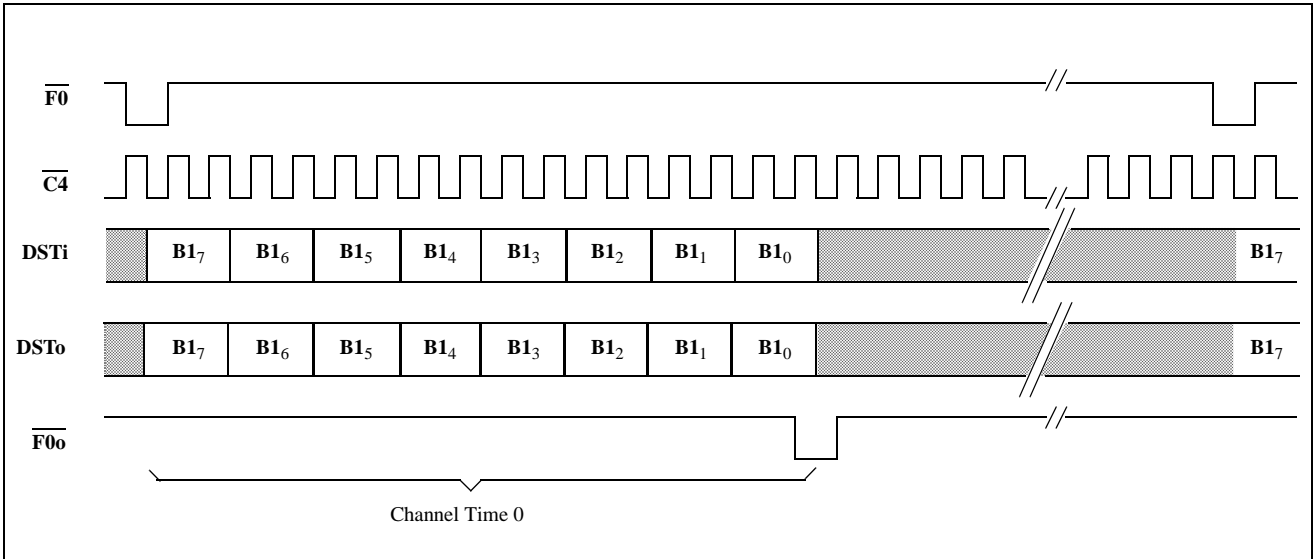
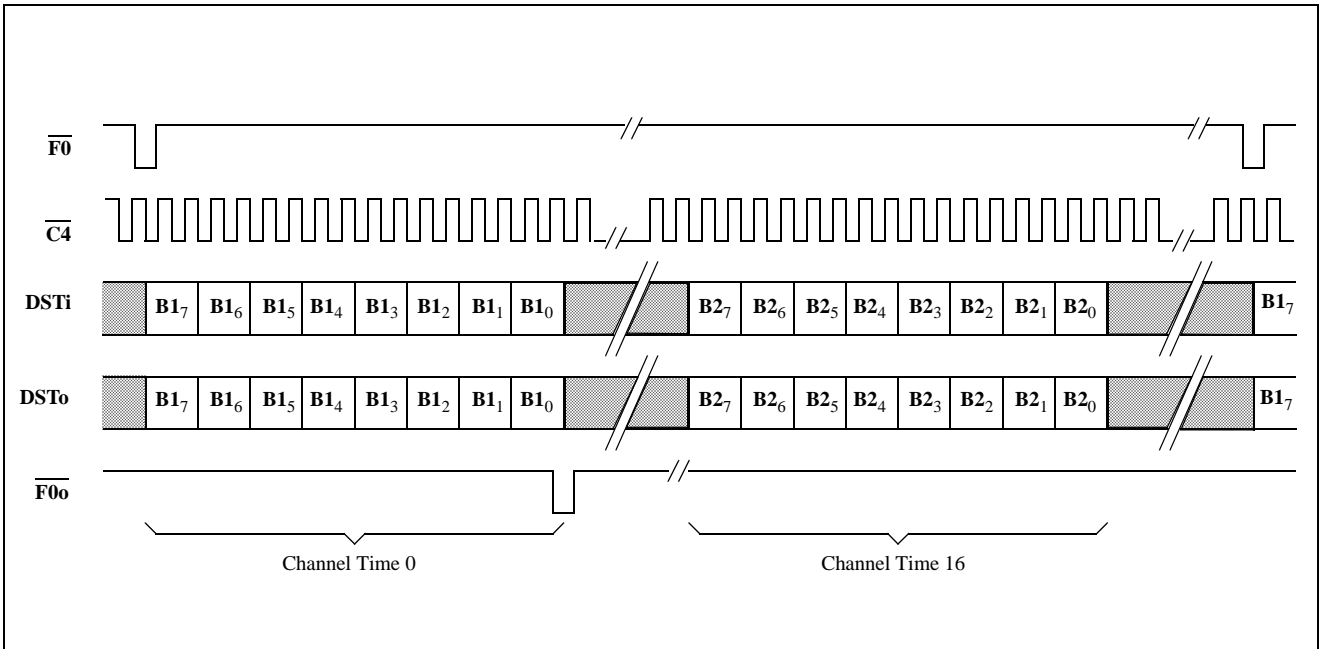
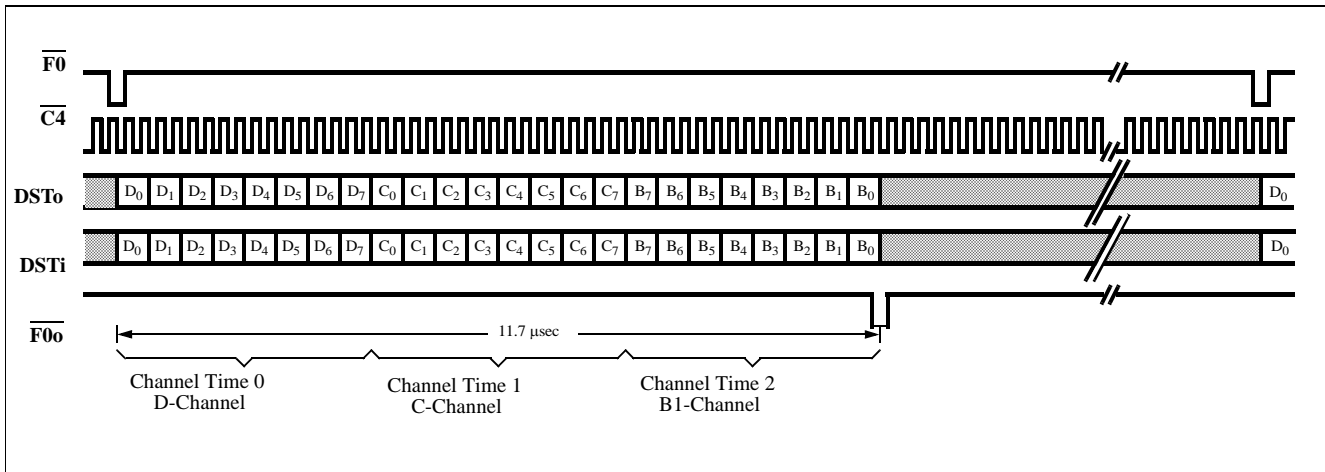
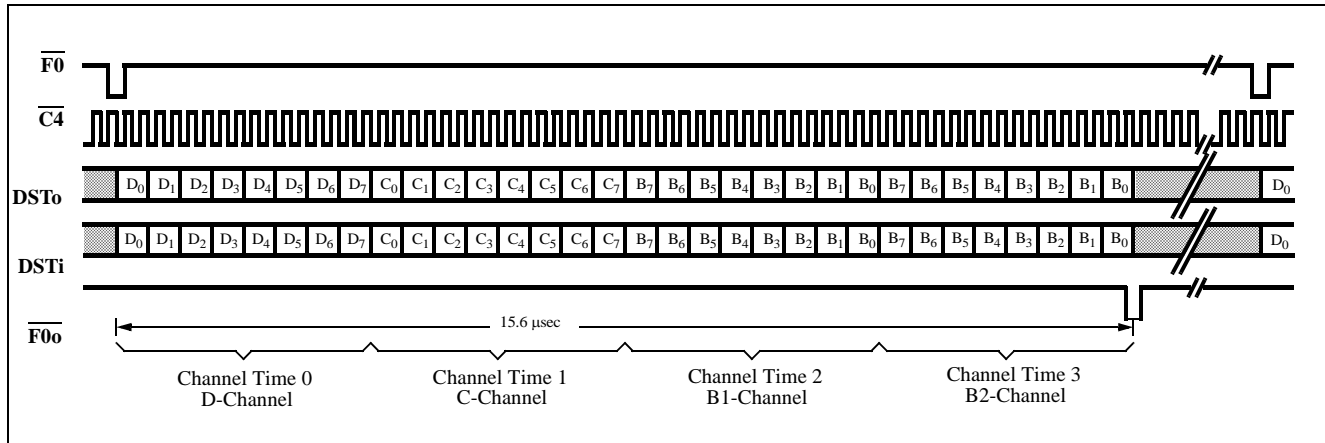

Figure 3 - DV Port - 80 kbit/s (Modes 2, 3, 6)
Figure 4 - DV Port - 160 kbit/s (Modes 2, 3, 6)
Figure 5 - DV Port - 80 kbit/s (Modes 0,4)
Figure 6 - DV Port - 160 kbit/s (Modes 0,4)
In DIGITAL NETWORK (DN) mode there are three channels transferred by the DV and CD ports. They are the B, C and D channels. The B1 and B2 channels each have a bandwidth of 64 kbit/s and are used for carrying PCM encoded voice or data. These channels are always transmitted and received through the DV port (Figures 3, 4, 5, 6). The C-channel, having a bandwidth of 64 kbit/s, provides a means for the system to control the DNIC and for the DNIC to pass status information back to the system. The C-channel has a Housekeeping (HK) bit which is the only bit of the C-channel transmitted and received on the line. The 2B+D channel bits and the HK bit are double-buffered. The D-channel can be transmitted or received on the line with either an 8, 16 or 64 kbit/s bandwidth depending on the DNIC's mode of operation. Both the HK bit and the D-channel can be used for end-to-end signalling or low speed data transfer. In DUAL port mode the C and D channels are accessed via the CD port (Figure 7) while in SINGL port mode they are transferred through the DV port (Figures 5, 6) along with the B1 and B2 channels.
The DV port transfers data or PCM encoded voice to and from the line according to the particular mode selected by the mode select pins. The modes affecting the configuration of the DV port are MOD or DN and DUAL or SINGL. In DN mode the DV port operates as an ST-BUS at 2.048 Mbit/s with 32, 8 bit channels per frame as shown in Figure 9. In this mode the DV port channel configuration depends upon whether DUAL or SINGL port is selected. When DUAL port mode is used, the C and D channels are passed through the CD port and the B1 and B2 channels are passed through the DV port. At 80 kbit/s only one channel of the available 32 at the DV port is utilized, this being channel 0 which carries the B1-channel. This is shown in Figure 3. At 160 kbit/s, two channels are used, these being 0 and 16 carrying the B1 and B2 channels, respectively. This is shown in Figure 4. When SINGL port mode is used, channels B1, B2, C and D are all passed via the DV port and the CD port is disabled. See CD port description for an explanation of the C and D channels.
The D-channel is always passed during channel time 0 followed by the C and B1 channels in channel times 1 and 2, respectively for 80 kbit/s. See Figure 5. For 160 kbit/s the B2 channel is added and occupies channel time 3 of the DV port. See Figure 6. For all of the various configurations the bit orders are shown by the respective diagram. In MOD mode the DV and CD ports no longer operate at 2.048 Mbits/s but are continuous serial bit streams operating at the bit rate selected of 80 or 160 kbit/s.